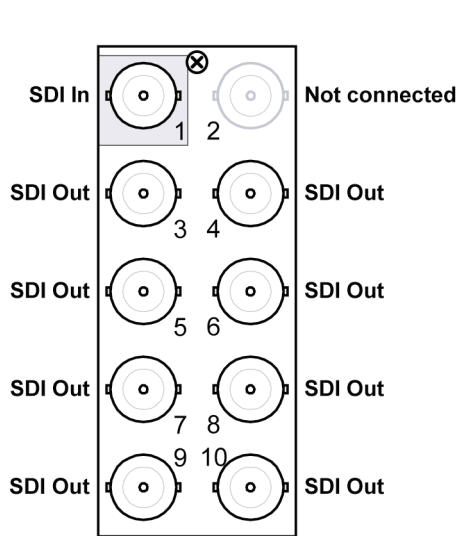

Figure 4. Cable Connections for the DFR-8320 frames with the R2-8203 Full Rear Module
- **R2-8203 Full Rear Module** — Each card occupies two slots and provides eight outputs (**Figure 4**). Ensure that the SRA-8203A card is installed in an even slot number.